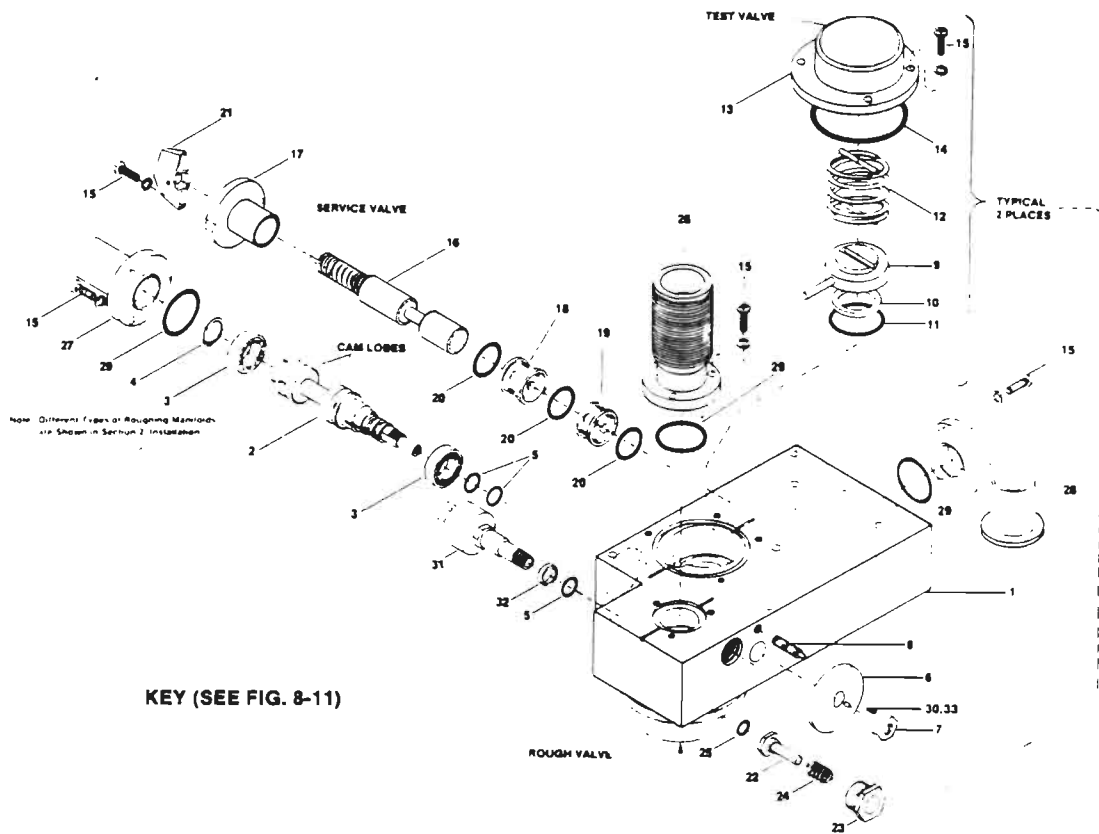
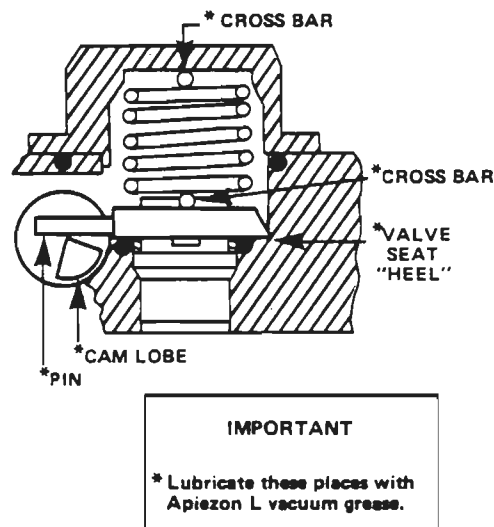

Fig. 4-7. Valve Block Assembly, Exploded View
Fig. 4-8. Valve Lubrication
- a. Remove roughing manifold (27, Fig. 4-7), spectrometer tube manifold (28), and inlet manifold (26). NOTE: All screws are the same size and length.
- b. Remove thermocouple gauge (31), O-ring (5) and washer (32) by pulling straight out.
- d. Remove test valve cap (13). (NOTE: Loosen screws evenly, as the cap is spring-loaded). Take out spring (12), valve seat (9), back-up ring (10), and O-ring (11).
- f. Remove  $\frac{3}{8}$  nut (7) from cam shaft (2).
- g. Remove detent plate (6).
- i. Push cam shaft (2) back and out of valve block (1).
- j. Remove two O-rings (5) from cam shaft (2).
- k. Remove two bearings (3) from cam shaft (2).
- a. Wash all parts, except thermocouple gauge (31, Fig. 4-7) and service valve handle (21), in Freon to remove all foreign matter and residual Apiezon grease. Dry thoroughly.
- b. Lightly coat cam shaft (2), bearings (3) and detent plate (6) with mechanical pump oil for rust protection.
- a. Moisten all new O-rings with Apiezon L vacuum grease until they are shiny. The service valve O-rings (20) and cam shaft O-rings (5) must be lubricated liberally.
- c. Assemble bearings (3) onto cam shaft (2) using snap ring (4) on end bearing. Install two O-rings (5) onto cam shaft. (NOTE: Fill O-ring grooves with Apiezon grease before installing O-rings.) Lubricate cam lobes with Apiezon grease (see Fig. 4-8).
- d. Push cam shaft (2, Fig. 4-7) into valve block (1) through rough pump opening.
- e. Put  $\frac{1}{2}$  drop of Apiezon grease into each detent on detent plate (6), then assemble plate onto cam shaft end using  $\frac{3}{8}$  hex nut (7).
- f. Assemble rough valve assembly (Fig. 4-8) as follows: Install seat O-ring (11, Fig. 4-7) and backup ring (10). **Important:** Place one drop of Apiezon grease on "heel" of valve seat (9) and lubricate valve seat pin (which wears on cam shaft). Drop valve seat (9, Fig. 4-7) into cavity with pin riding on cam lobe. Lubricate cross bars on valve spring (12) with Apiezon grease. Place spring (12) into slot on valve seat. Place O-ring (14) into groove on valve body (1). Place valve cap (13) over spring (12) and screw down evenly.
- g. Install operating handle (21) temporarily to place cam position at 6 o'clock handle position.
- i. Assemble service valve assembly. Lubricate O-rings (20) liberally. Place an O-ring into cavity followed by the short spacer (19), then another O-ring (20) followed by a long spacer (18), then another O-ring. Coat the valve shaft (16) lightly with Apiezon grease and push it into place through the O-rings and spacers. Assemble end cap (17) and valve knob (21). Be sure to tighten screws evenly on end cap (17) with service valve all the way in. (This will line up the shaft properly.)
- j. Assemble thermocouple gauge (31) with washer (32) and O-ring (5).
- k. Assemble the spectrometer tube manifold (28), inlet manifold (26), and the roughing manifold (27).